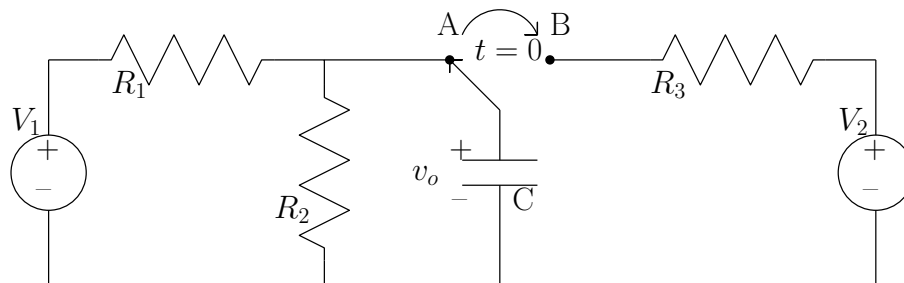

Figure 7.2: A more complicated first-order circuit.
4. Look at Figure 7.2. Assume the switch is at position A for a long time and suddenly is switched to position B at $t = 0$. In terms of V_1 , V_2 , R_1 , R_2 , R_3 and C write v_o as a function of time. (**Hint:** This may seem very difficult at first,
8. Let's examine a more interesting circuit that responds to a voltage step elicited by the flip of a switch. You may want to check the components section of the manual to find out how the switch works. Build the circuit shown in Figure 7.2 using $R_3 = 1 \text{ M}\Omega$, $R_1 = R_2 = 10 \text{ k}\Omega$, $C = 1 \text{ }\mu\text{F}$, $V_1 = 5 \text{ V}$ and $V_2 = 10 \text{ V}$. It will be helpful to view the response on the oscilloscope. Estimating the time constant may help you to easily capture the output.